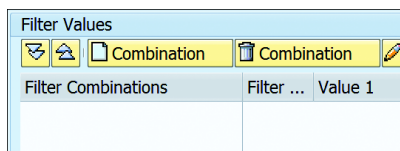

Figure 20.46 Setting Filter Criteria
- Double-click the FILTER VAL. subobject to set the filter criteria. This will open a screen in which you can assign filter values. Click the COMBINATION button, as shown in Figure 20.46, and double-click the question mark symbols to set the filter value.